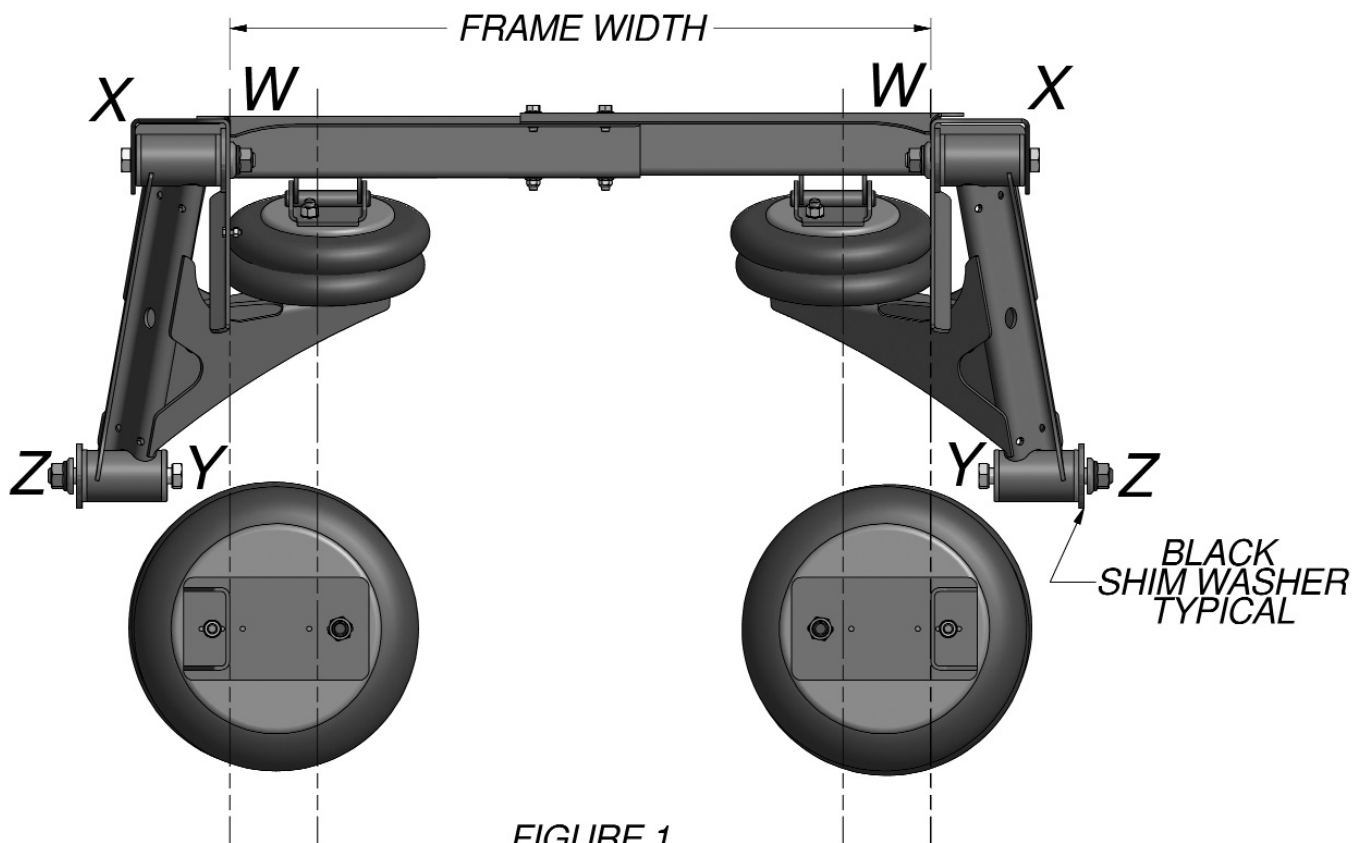

FIGURE 1
1. **Frame width.** All model RSS-232 suspensions can be configured to accommodate frame widths from 33.7 to 35.3 inches. Suspensions can be ordered with pre-set frame widths or can be field modified. Frame width adjustments are made by removing one or both ends of 4 torque rods and moving the shim washer from one side to the other. The proper location for the shim washers for a given frame width can be found in **Figure 1**.